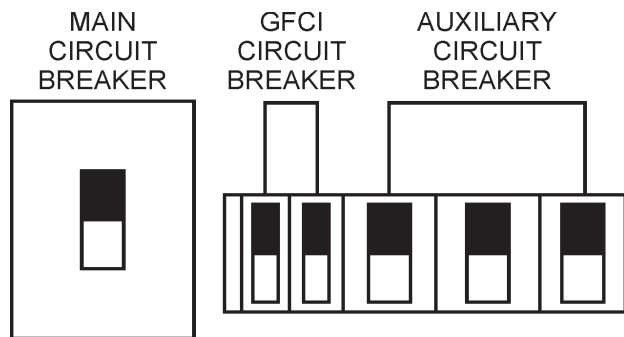

Figure 52. Main, AUX. and GFCI Circuit Breakers (ON)
17. Turn the *main*, *GFCI*, and *aux.* circuit breakers to the "ON" position (Figure 52).